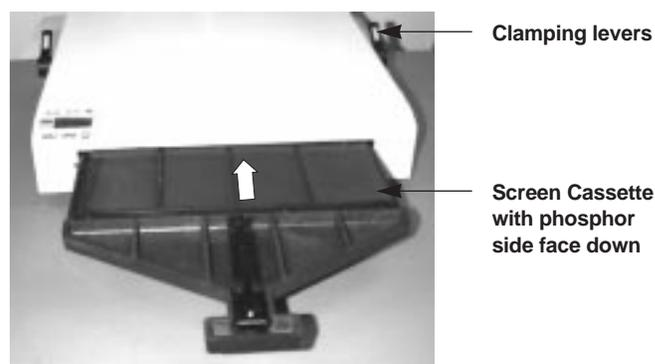
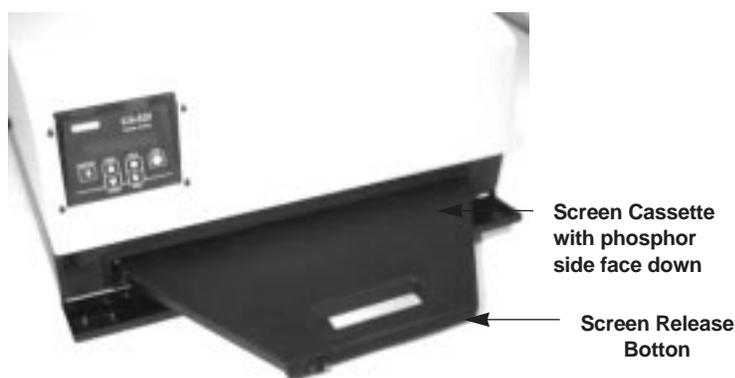

Fig. 4.5. Insertion of small Imaging Screen into the GS-505 Loading Dock.
Fig. 4.6. Insertion of large Imaging Screen into the GS-525 Screen Eraser.
- b) Push the entire cassette into the screen entrance slot in the front of the drawer (Figure 4.5).
- d) When using the 20 x 25 cm Imaging Screen, push down the screen release button and pull the screen cover back out of the Loading Dock (Figure 4.5). When using the 35 x 43 cm Imaging Screen, pull the Release Button toward the center of the screen and press inward while pulling the screen cover back out of the loading dock (Figure 4.6).